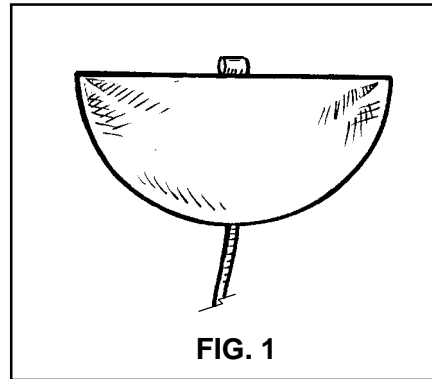

**FIG. 18**
**19.** Close the riser covers over the main risers (**FIG. 18**).